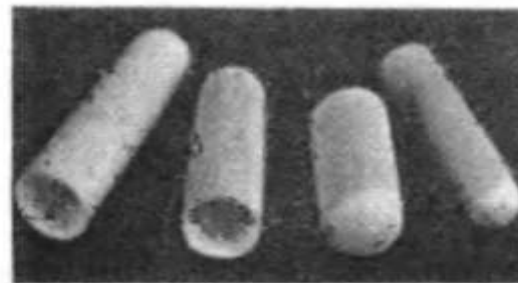

Figure 10-11. Extraction thimbles.
- ❑ Figure 10-11. Porous ceramic extraction thimbles are also available. The sample (F) is placed inside of the thimble and covered with a small amount of glass wool (G) to spread out the extraction solvent and reduce channeling during the extraction. A condenser, usually an Allihn type (H), is connected to the top of the extraction chamber. When the solvent is heated, it will go up the side arm (I), be condensed, and drop onto the sample. When the solvent level reaches (J), the solvent and the materials it has extracted then will siphon back into (A), leaving a few milliliters at the bottom of (D). The process then repeats itself. The solvent is distilled from the extracted material, so fresh solvent is always dripping onto the sample. After each cycle, the extract becomes a little more concentrated in the flask.